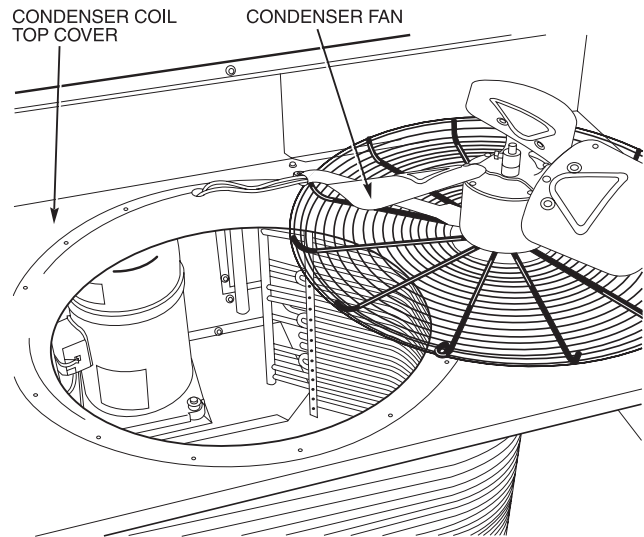

Fig. 45 — Coil Cleaning
One-Row Coil Cleaning (Size 004) — To access one-row coils, remove screws securing condenser-fan grille to condenser fan top cover. Place grille on top of condenser fan top cover as shown in Fig. 45. It is not necessary to remove the top cover.
1. To access 2-row coils, remove screws securing condenser-fan grille to condenser coil top cover. Place grille on top of condenser fan top cover as shown in Fig. 45 and 46. It is not necessary to remove the top cover.